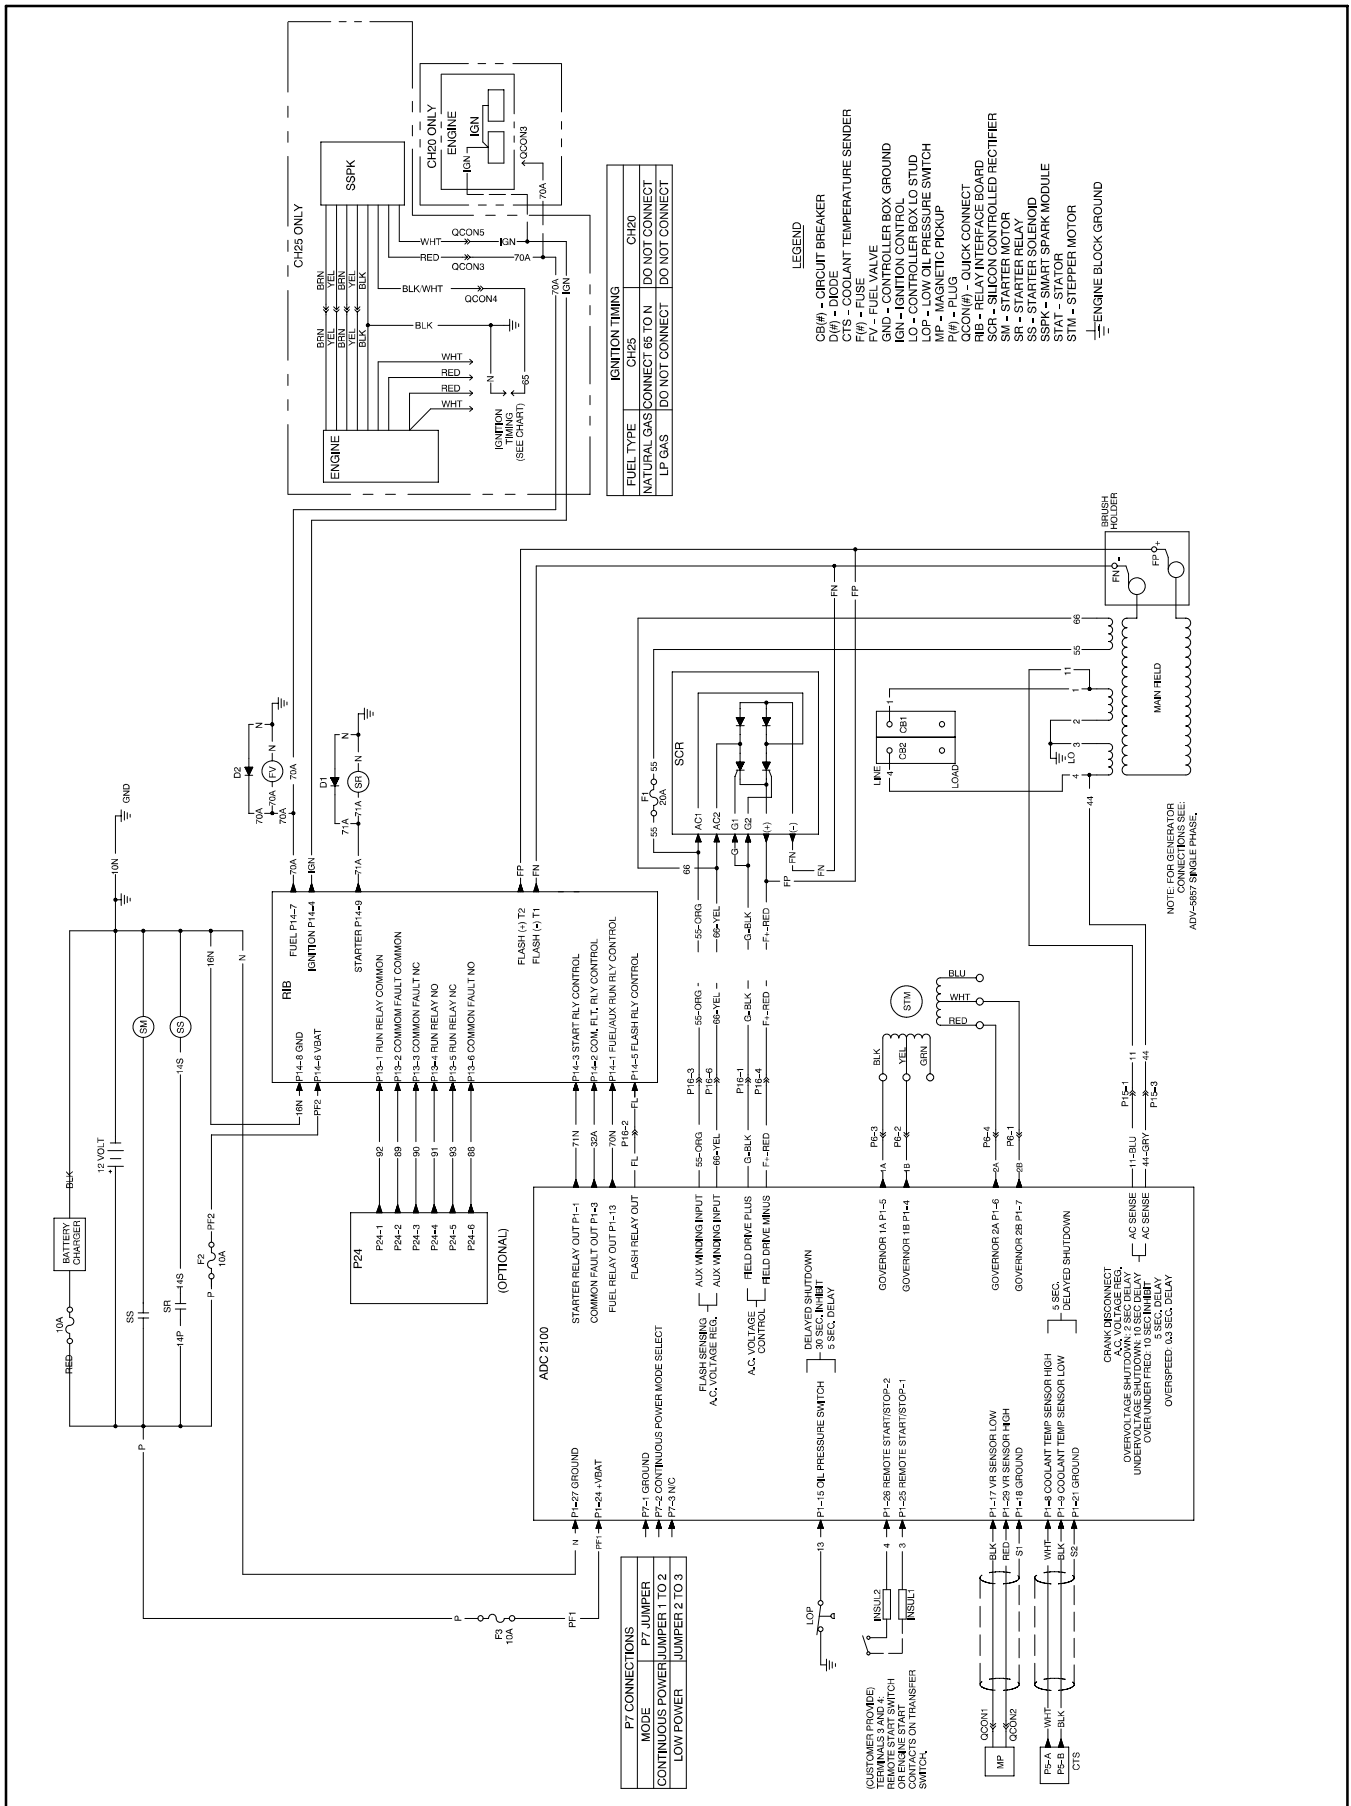

Figure 6 Schematic Diagram, ADV-6835A-E, Model 8.5/12RES
9. Connect the wiring harness leads to customer-supplied equipment. Connect to each relay's normally open or normally closed contacts depending on the application. See Figure 5 and the following section, Relay Operation. Also see the schematic diagram in Figure 6 for the model 8.5/12RES or the diagrams in the Installation Manual for other generator set models.